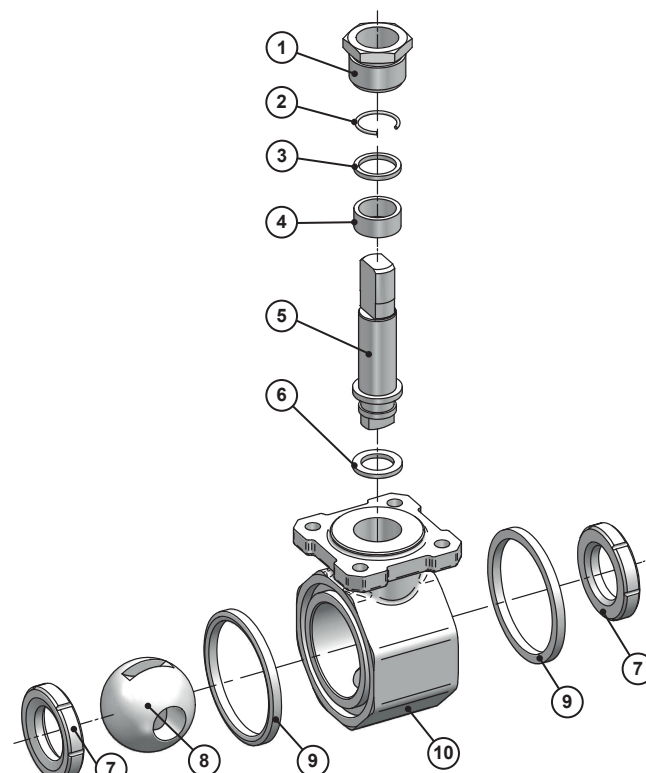

Fig. 17: Remove the seals in the ball valve
1. Turn the control rod as shown in Fig. 17 „Remove the seals in the ball valve“ on page 25.
6. Fit a ball seat in the housing. The 45° chamfer must point towards the ball (see symbol in Fig. 17). Make sure that the ball seat does not twist.
9. Fit the housing seals. One side of the seal is flat, the other is slightly convex. The convex surface of the seal must point outwards (see symbol in Fig. 17).